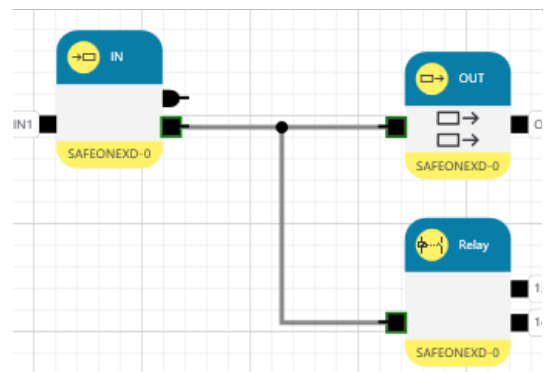

Fig. 6-6
- Click on the line and drag the cursor to the input pin you want (Fig. 6-6).